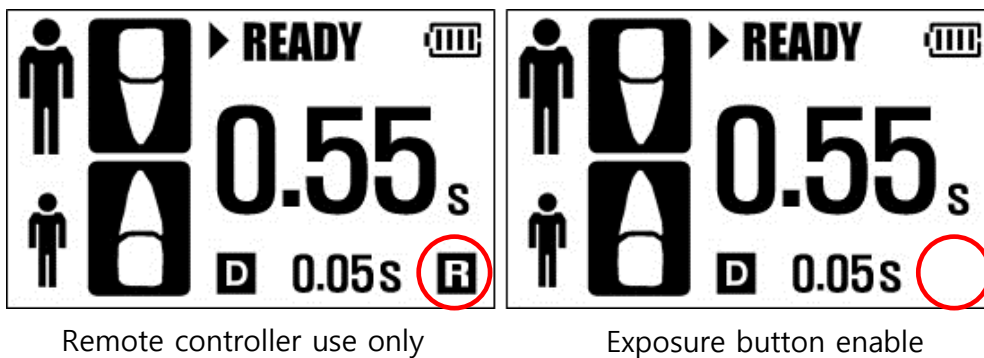

Figure 7.7 X-ray exposure button use check
- When selecting 'Remote', 'R' will appear on the main control display and will disappear when selecting 'Dual' (see Figure 7.7).